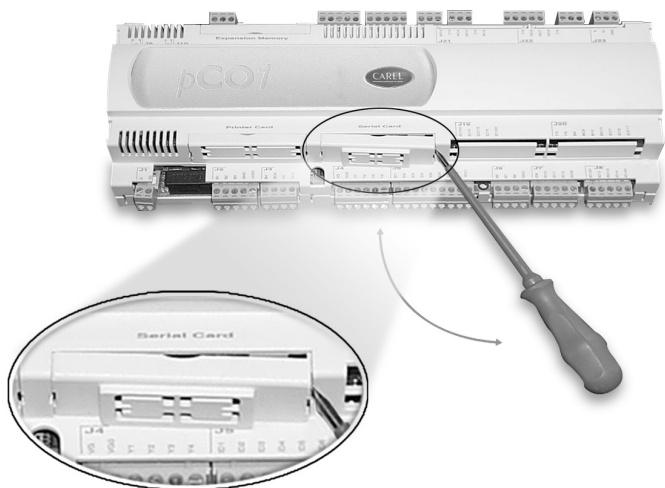

Fig. 1
To install the card in the pCO unit respect the following instructions (Fig.1...4):
1. remove the "serial card" placement cover with a screwdriver (Fig.1);